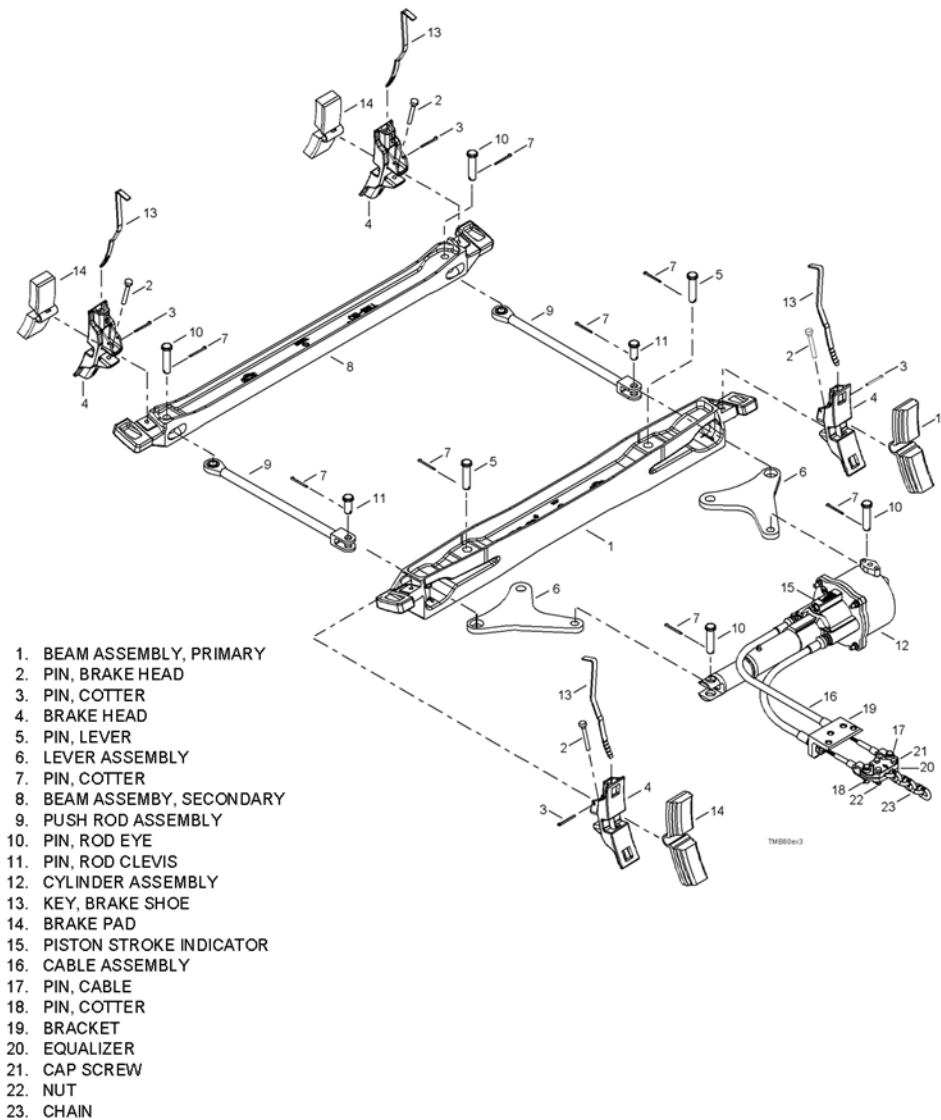

Figure 21: TBM-60 Truck Mounted Brake System with Handbrake
5.4.4 TMB-60 Truck Mounted Brake System - With Handbrake, Fig. 21